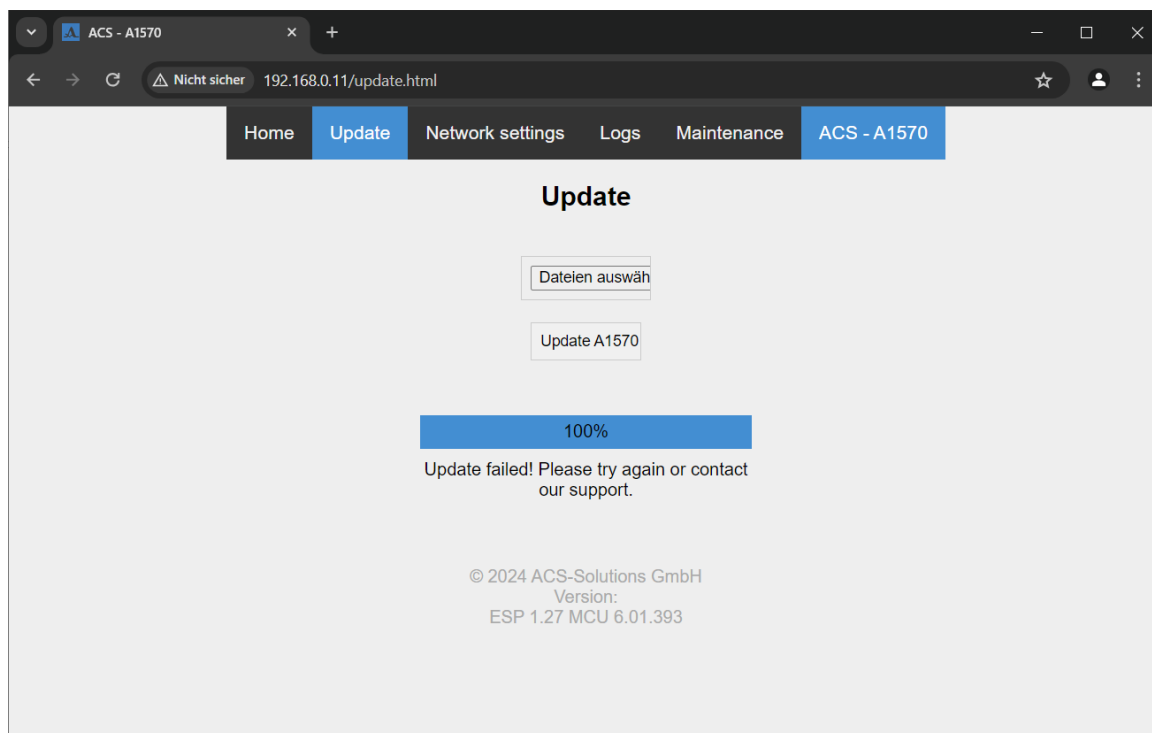

Figure 13: Updating failure
- The user will receive a notification indicating the failure (see Figure 1322).